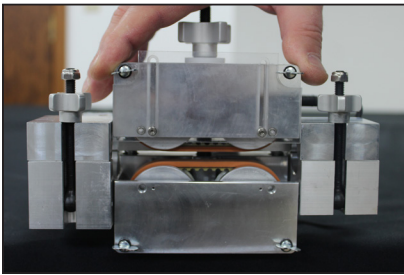

Figure 30. Remove Top and Bottom Front Cover Plate
- a. Remove cover plates from the GS300QC (Figure 30) using the quick attach 1/4" turn screws.